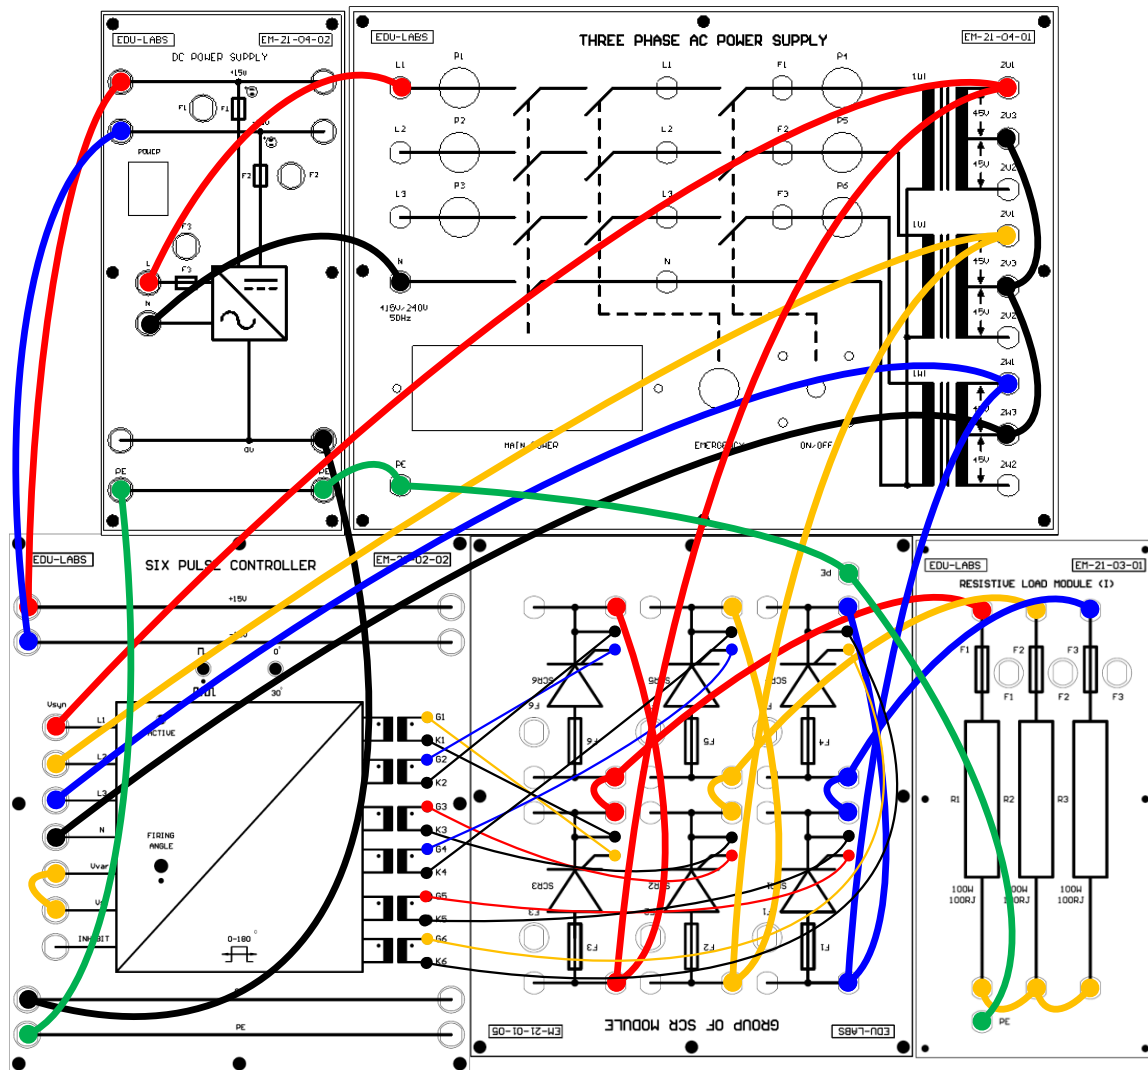

Figure 20.1 Current diagram for examine the phase control of the star-connected three phase bidirectional connection on resistive load
1. Construct the circuit according to current diagram Figure. 20.1
Refer to Figure 20.1 while connecting.